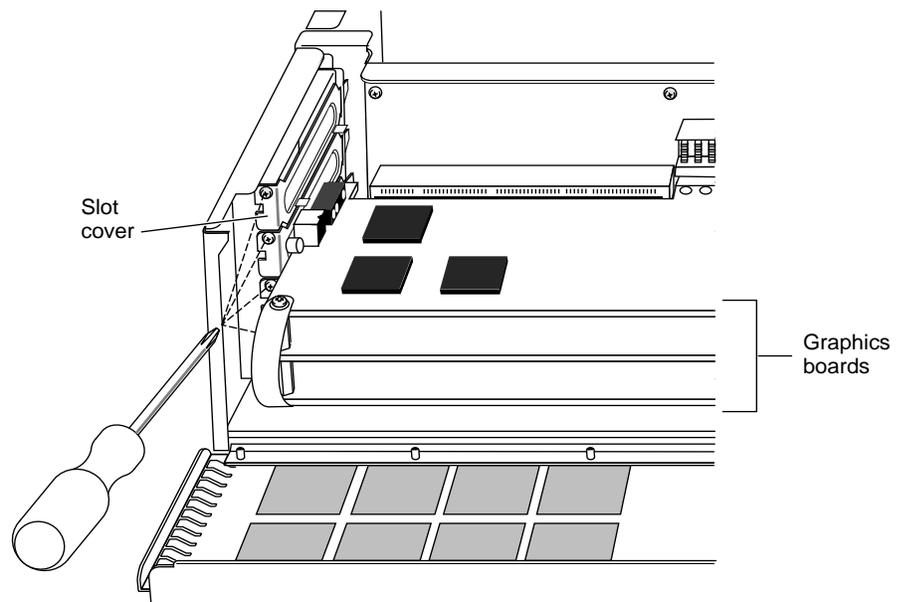

Figure 2-9 Removing the Slot Cover Screws and Slot Cover
5. Remove the screws that attach the slot cover and the graphics boards to the chassis (Figure 2-9).
6. Remove the slot cover (Figure 2-9).